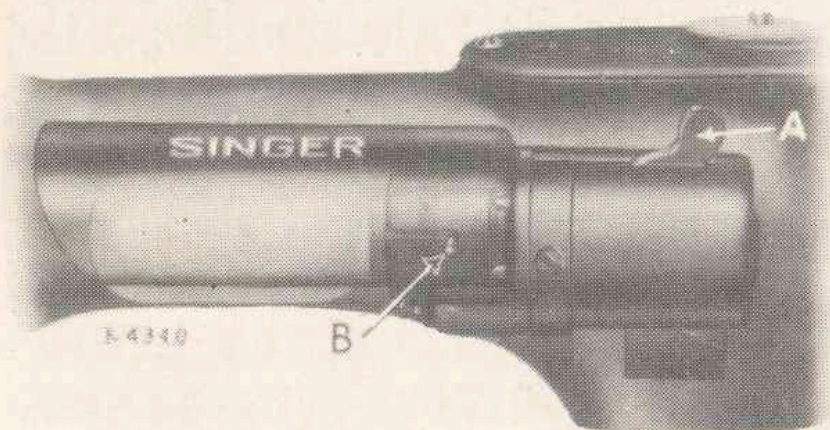

Fig. 1
Turn the SINGERLIGHT "on" or "off," by means of the switch A, Fig. 1.
To Insert a New Bulb. Press the bulb into the socket and turn it over toward you until the bulb pin (B) enters the notch in the socket, as shown in Fig. 1.